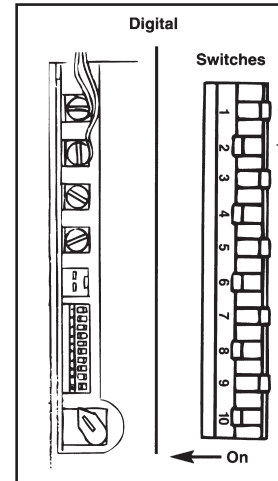

Figure 6
- Digital openers have toggle switches, jumper wires or rocker switches. See Figure 6.